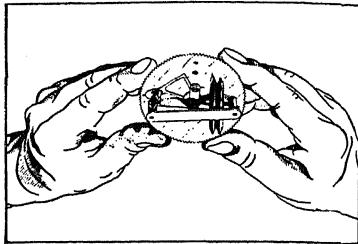

FIG. 6.—Freeing the link from the air
**Taking the Mechanism Apart.** Take out the small bearing that holds the end of the link to the adjustment arm. This frees the link from the arm as in Fig. 6. Do not touch the screw holding the arm in position.